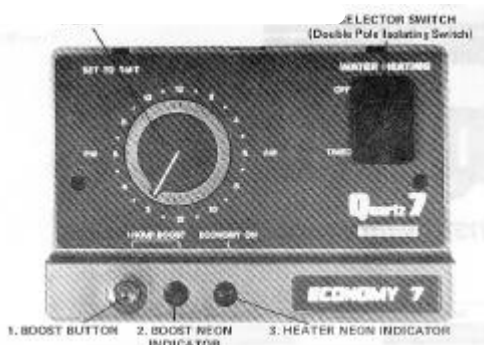

Fig. 1
- 12 Replace dust cover by inserting bottom lugs first and then clipping in top lugs (reverse procedure to that shown in Fig 1).